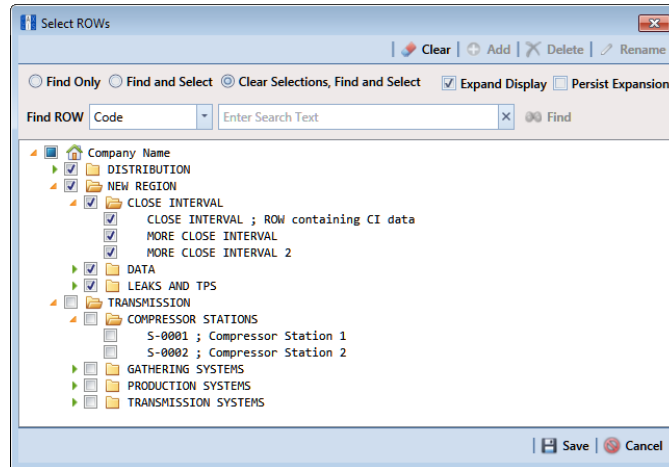

Figure 8-21. Select ROWs
- Select one or more pipeline segments in the *Select ROWs* window (Figure 8-21). Select pipeline segments with facilities you plan to include in a route for an averaged reading survey. Click  **Save** to close the window.